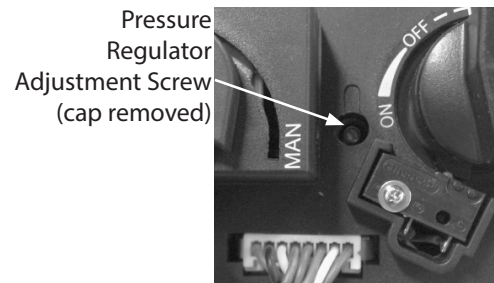

Figure 5.
Step 16: On the gas valve, between the Manual Knob and the Main Valve Knob is a black plastic cap which hides access to the pressure regulator adjustment screw. Remove black plastic cap to gain access to the pressure regulator adjustment screw. See Figure 5.